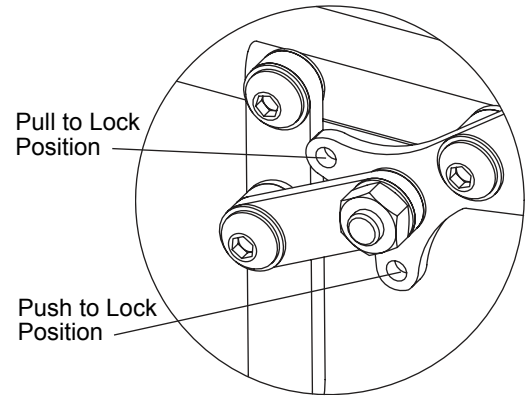

Figure 72
1. Remove the socket head cap screw and reposition it to either the Pull to Lock or Push to Lock position, as desired. See Figure 72.